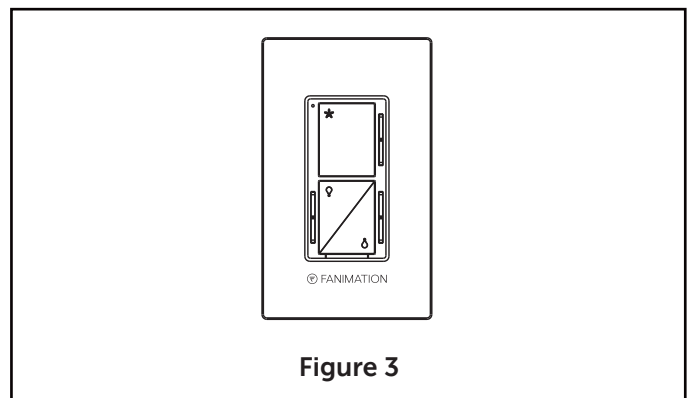

Figure 3
4. Operating Wall Control: (Figure 3)